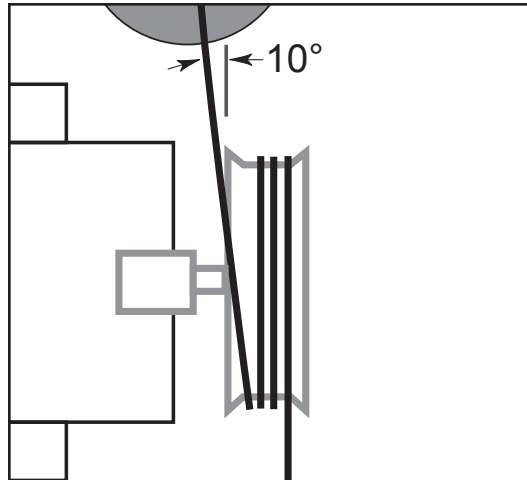

Figure 18. Puller Positioning
a. Move the puller into its final position. The pull line will wrap best on the capstan if the capstan is angled about 10° away from the pull line (figure 18). This will allow the line to walk down the side of the capstan and push the previous wraps to the side.